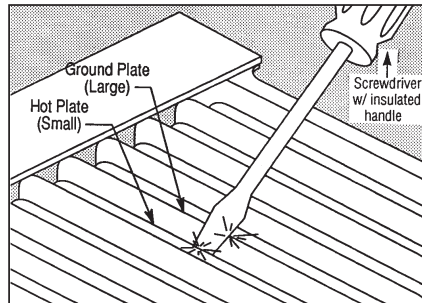

Figure 12
A visual of a module could identify problems such as moderate to extreme contaminant build up to the unicells even though the indicator lights are illuminated. This will be helpful in scheduling a manual cleaning of the components, refer Section 6.2. To check the condition of the unicells, place the SGN offline. Open the module door and perform the grounding procedure, refer to Figures 12 and 13, inspect the condition of the unicells, filters, door feed-thru insulators and interior of the cabinet. Experience will dictate whether contaminant build-up is excessive. Contaminant build up will decrease high voltage to the ionizer and collector cell circuit. When accessing a module, always clean the two door feed-thru insulators.
2. Open power pack enclosure lid cover, perform grounding procedure refer Figures 12 and 13,
Risk of electrical shock. The high voltage circuits to the ionizer and collector should be grounded before removing the power pack, high voltage wires, door feed through insulators and unicell(s). The grounding procedure can be accomplished by waiting one minute after placing the toggle switch in off position or by referring to Figures 12 and 13. An internal resistor within the power pack discharges the residual high voltage. The grounding procedure statement is not identified within the troubleshooting steps but should be performed. The power pack total current output is limited to a maximum of 5 milliamps to assure personnel safety.